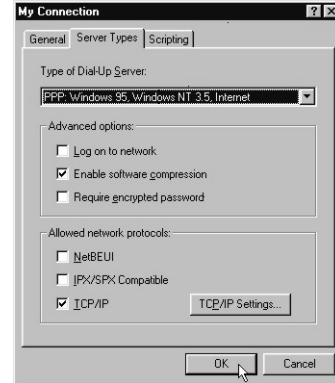

Figure 20 - Server Types Tab
23. In the "Allowed Network Protocols:" area check "TCP/IP". Uncheck all other options. Click OK. (Fig. 20)